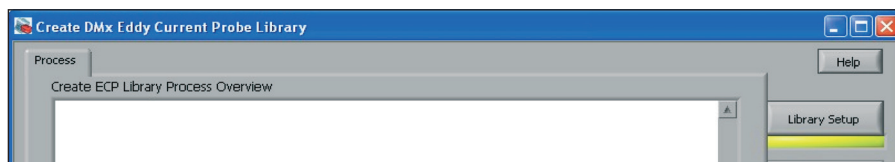

Fig. 13. Create DMx Eddy Current Probe Library dialog.
- **Create ECP library:** the dialog in **fig. 13** then displays